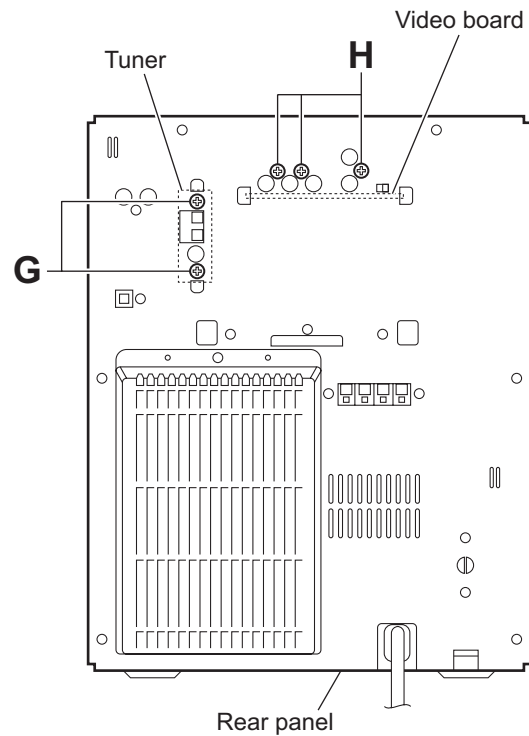

Fig.9
- (2) From the back side of the main body, remove the two screws **G** attaching the tuner to the rear panel. (See Fig.9.)
- (2) From the back side of the main body, remove the three screws **H** attaching the video board to the rear panel. (See Fig.9.)